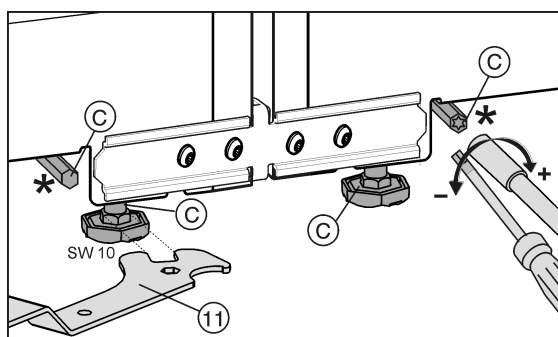

Fig. 25
The front adjustment feet can be adjusted with the supplied open-end wrench *Fig. 25 (11)* and the rear adjustment feet* with a 1/4" bit attachment.